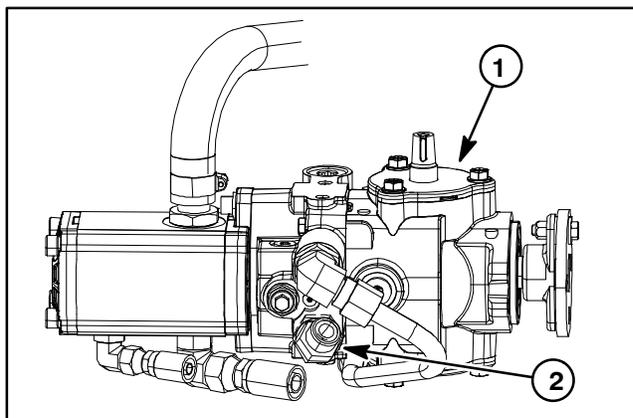

Figure 35
3. Thoroughly clean junction of hydraulic hose and **lower** fitting on side of piston pump (Fig. 35). Disconnect hose from lower pump fitting.